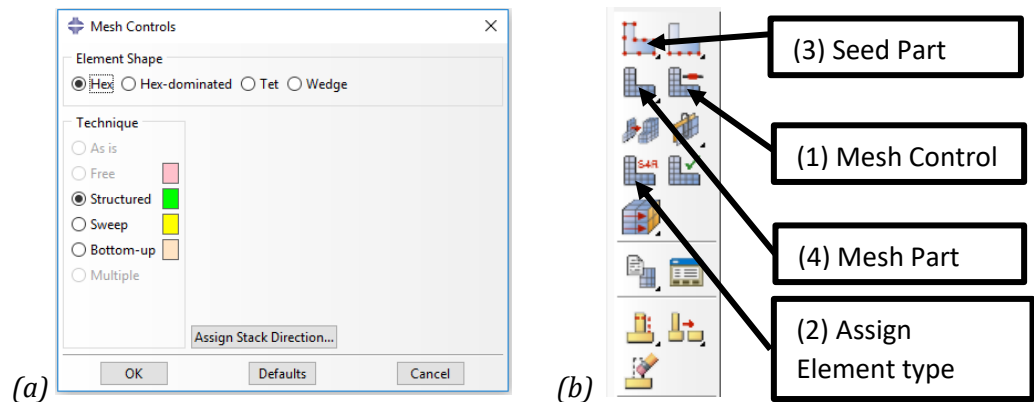

Figure 1-24 – (a) The Mesh Control dialog box and (b) the different tools for meshing a part in this workshop.
2. From the tools on the left ribbon, choose the **Mesh Controls**. See (1) in Figure 1-24(b).
1. From the tools in the left ribbon, choose the **Assign Element type**. See (2) in Figure 1-24(b).
1. From the tools in the left ribbon, choose the **Seed Part**. See (3) in Figure 1-24(b).
4. From the tools in the left ribbon, choose the **Mesh Part**. See (4) in Figure 1-24(b).